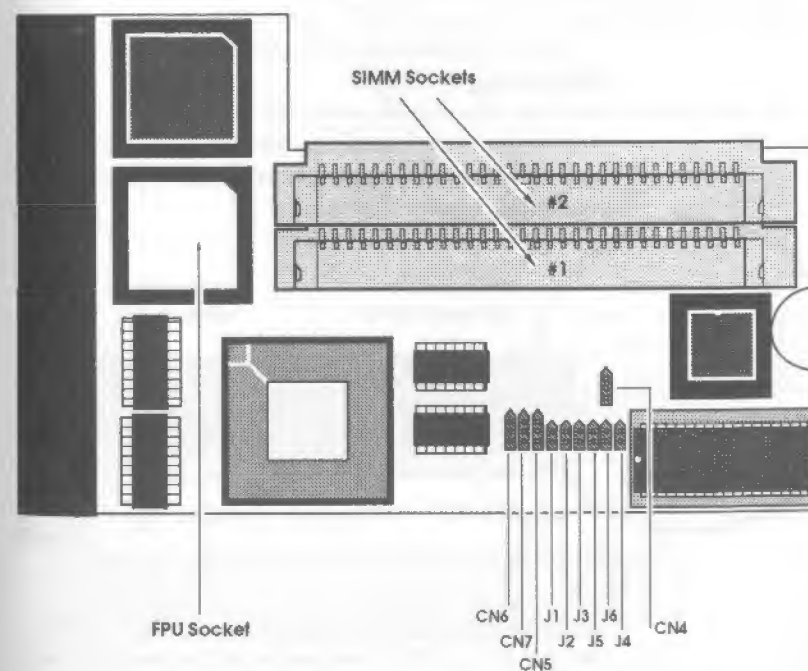

Figure 3.1 — Layout of The A1230 Turbo+ board
>>> The A1230 Turbo+ can use GVP's 1MB, 4MB or 16MB (megabyte) SIMM32 modules in any combination, as long as the SIMM with the highest memory capacity is always placed in SIMM Socket #1 (see Figure 3.1).
Below the SIMM sockets on the A1230 Turbo+ are a set of upright metal pins, in groups of two and three called **jumper pins** (see Figure 3.1 — they're labeled with 'J' and 'CN'). These are connection points for special circuits on the board, and are used to set various parameters for proper operation of the board. By pressing a **shorting block** onto a pair of pins, you're turning a parameter **ON**.
3. Orient the FPU so that the writing on the chip faces upwards and the notch in the corner of the chip matches the notch in the corner of the socket (see Figure 3.1). The chip will fit in the socket easily only one way.
Refer to the jumper labels in Figure 3.1, and Figure 3.6.